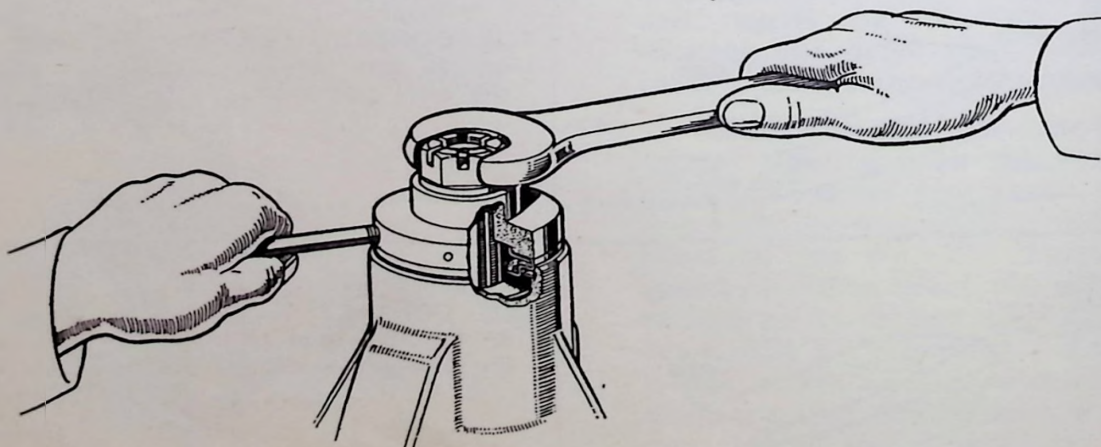

Fig. 28.
- (1) Remove the drive pinion nut, washer and companion flange.
- (2) Install the oil slinger, and then fit the pinion oil seal assembly, using Tool No. SE.108 as shown in Fig. 28. Place the oil seal with the dust excluder flange uppermost (not omitting the oil seal gasket used with the metal case type seal on later models), fit the installation collar SE.108 and then tighten down the pinion nut and washer to drive the assembly home. Remove the installation collar.
- (3) Fit the companion flange with dust excluder, washer and pinion nut, tighten, and secure with a cotter pin.
- (4) Fit the rear cover gasket, renewing it if required, and rear cover, securing same with set bolts and lock washers, not omitting the ratio tag which is attached by one of the set bolts.
- (5) Re-install the axle shafts and hub bearings, etc., as previously described.
- (6) Check that the drain plug is securely tightened, then fill with the appropriate quantity of one of the hypoid lubricants.
- (7) Replace the filler plug and check that the cover set bolts are tight.
- (8) Check for oil leaks at the cover, pinion oil seal and where the differential cap bolt holes break through the carrier.
- (9) Finally, grease the hub bearings.